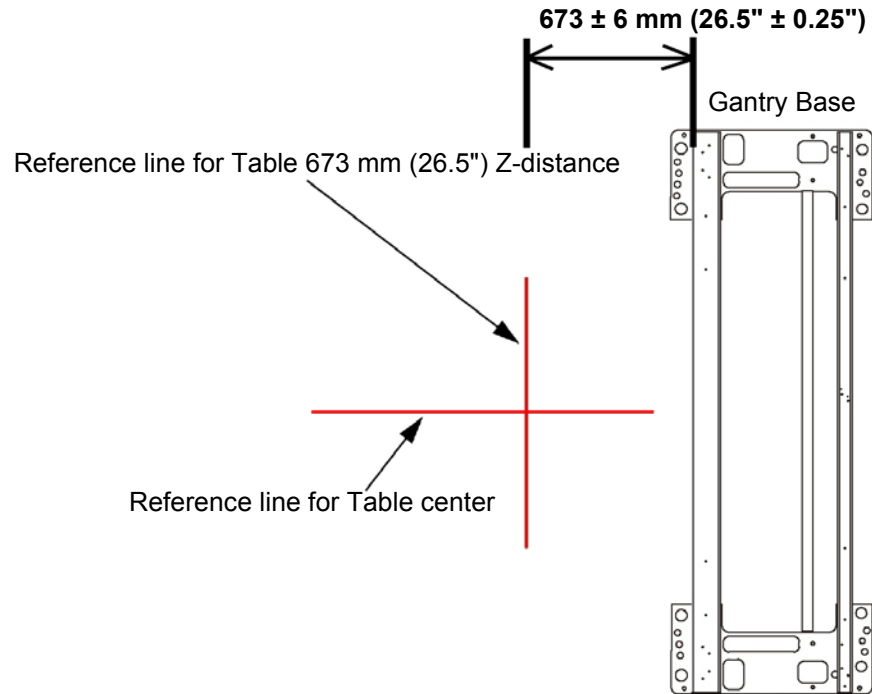

Figure 1-26 Draw Reference Line for Table Center
- 3.) Recheck the table-to-gantry reference line for $673 \pm 6 \text{ mm}$ ($26.5'' \pm 0.25''$) Z-distance. Refer to Figure 1-26.